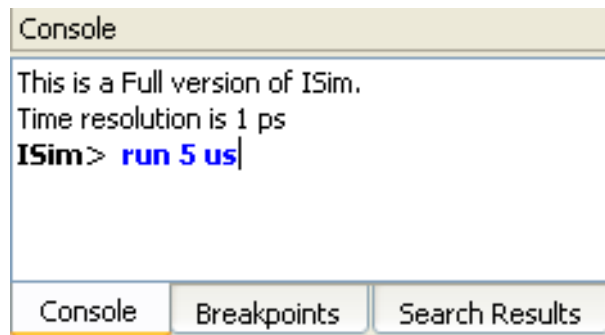

Figure 4-13: ISim Tcl Prompt
- Typing “run 5 us” in the Tcl prompt (refer to Figure 4-13), then pressing **Enter**.